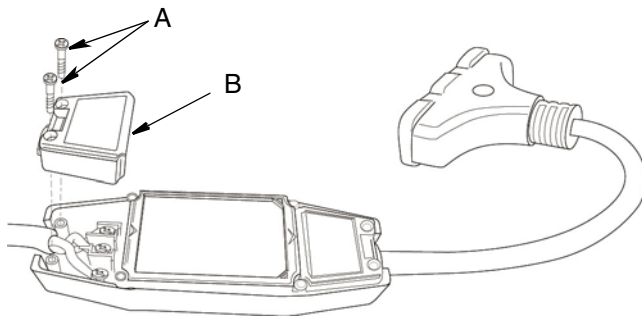

FIG. 12
Reference letters used in the following instructions refer to FIG. 12.
2. Loosen two Phillips #2 screws (A) on GFCI cover (B). Remove cover (FIG. 12).
3. Reassemble GFCI cover (B) with two Phillips #2 screws (A) (FIG. 12).